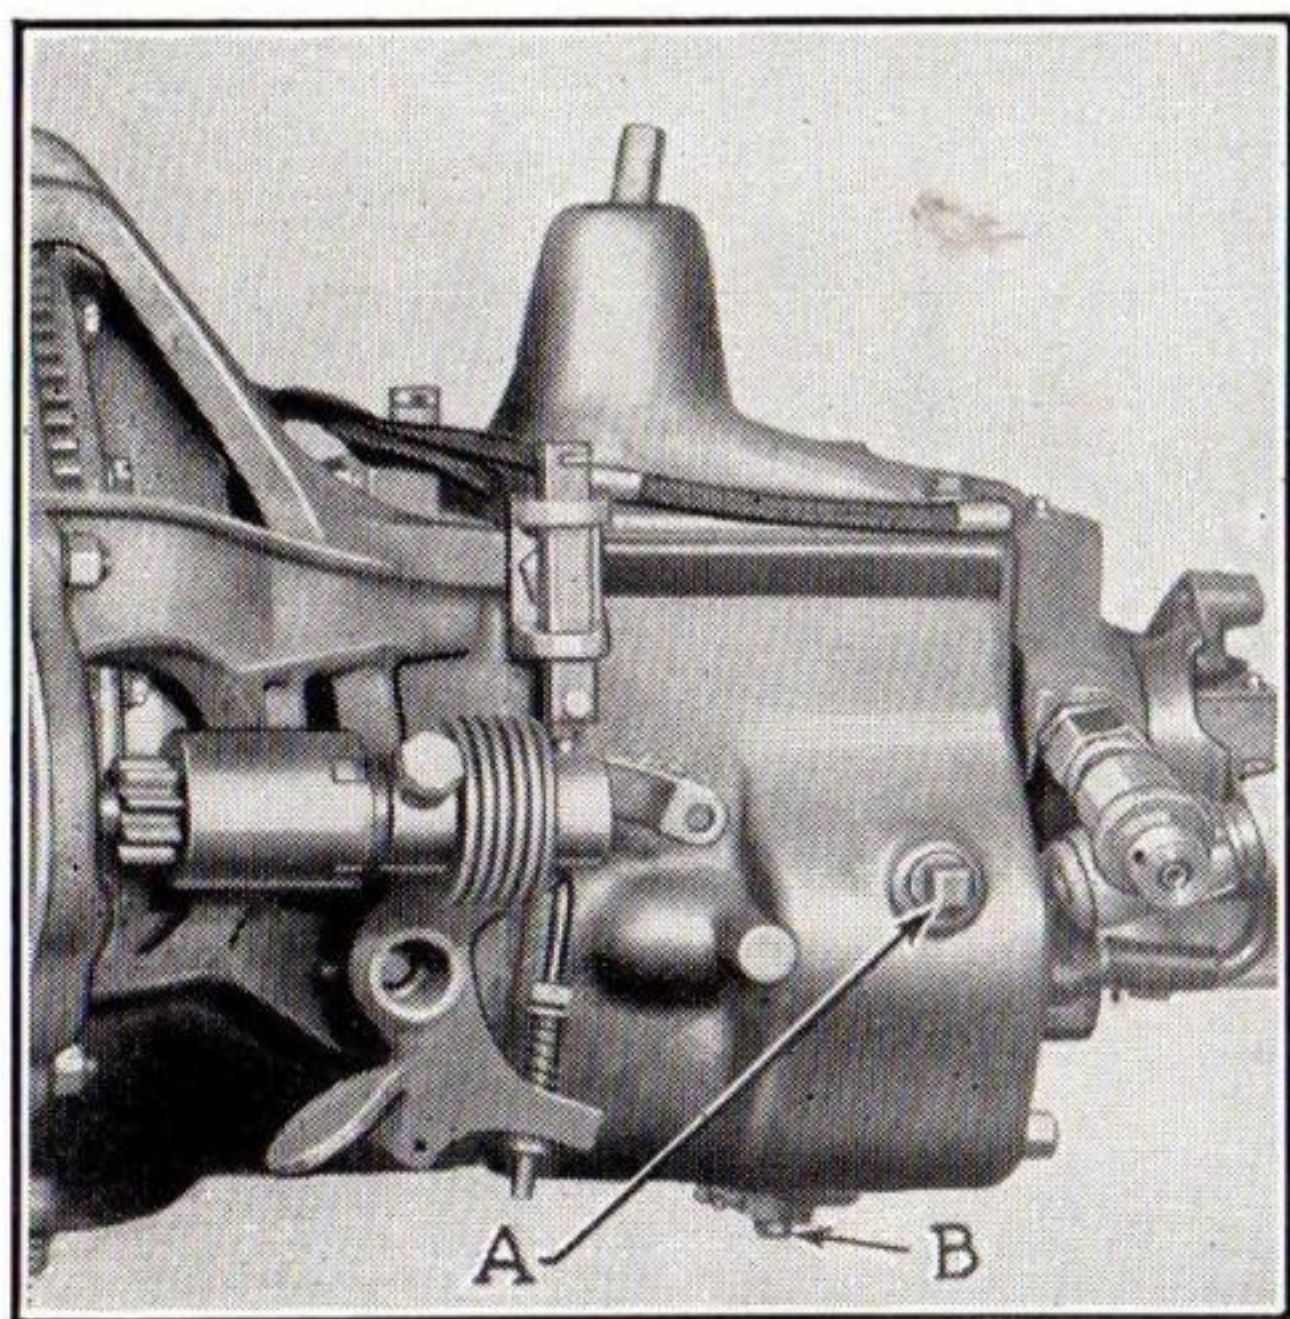

Figure 15
The transmission should be filled with lubricant to the level of the filler plug (A), Figure 15, at all times. Drain the lubricant with